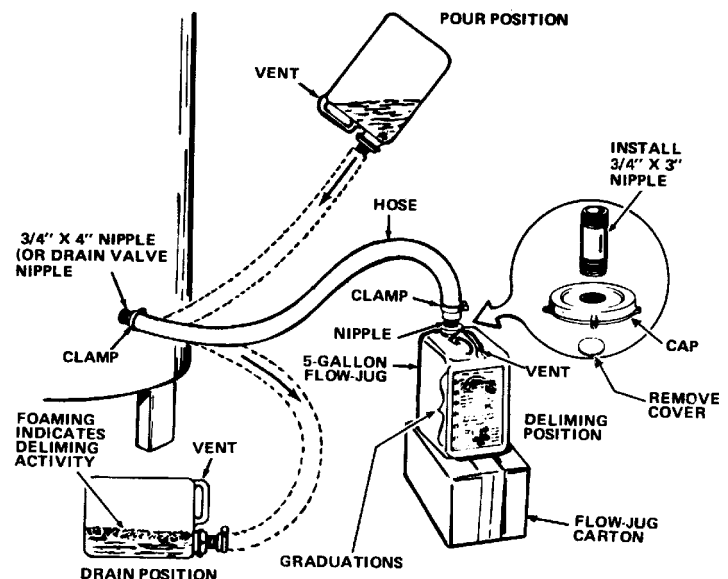

FIGURE 9
6. Lift container to the "Pour" Position, see Figure 9, being careful to keep the vent in the handle above the liquid level and pour the UN•LIME into the heater.
8. Let UN•LIME remain in the heater for 5 minutes and then lower the container to the "Drain" Position, see Figure 9.